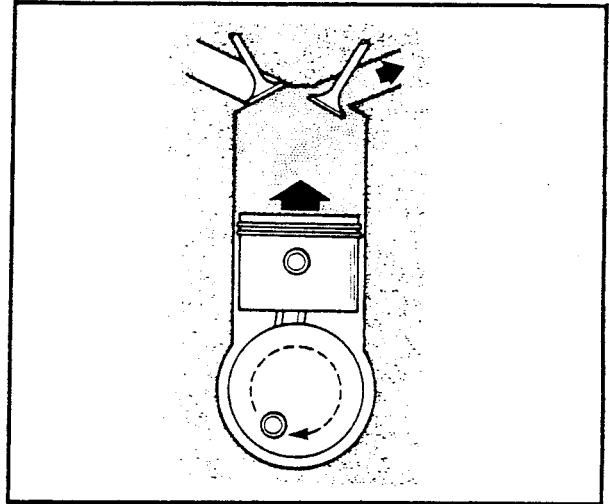

Figure 2-4. Exhaust Stroke
1. See Figure 2-4. The crankshaft has now rotated one and one-half revolutions, and the burned gases must be removed. The exhaust valves open and the piston moves from B.D.C. to T.D.C. forcing the burned gases out of the cylinder through the exhaust ports. During